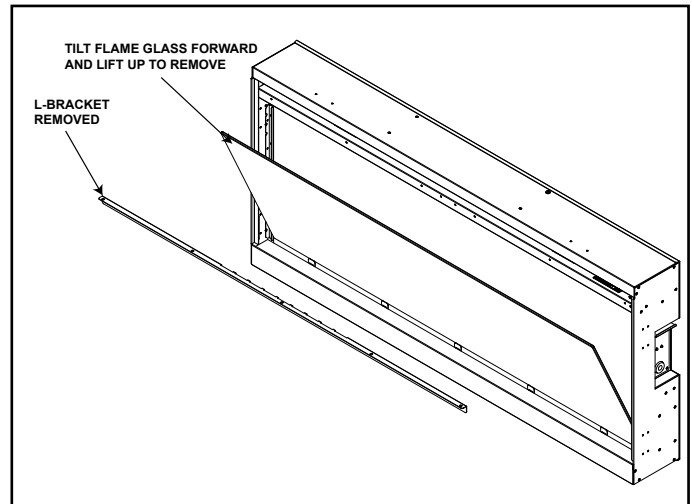

Figure 7 Glass Removal
2. Remove inner glass by removing the screws from the "L" bracket that secures the top side of the glass in place. Pull top of glass forward. Lift glass up and out of the glass channel. See Figure 7.